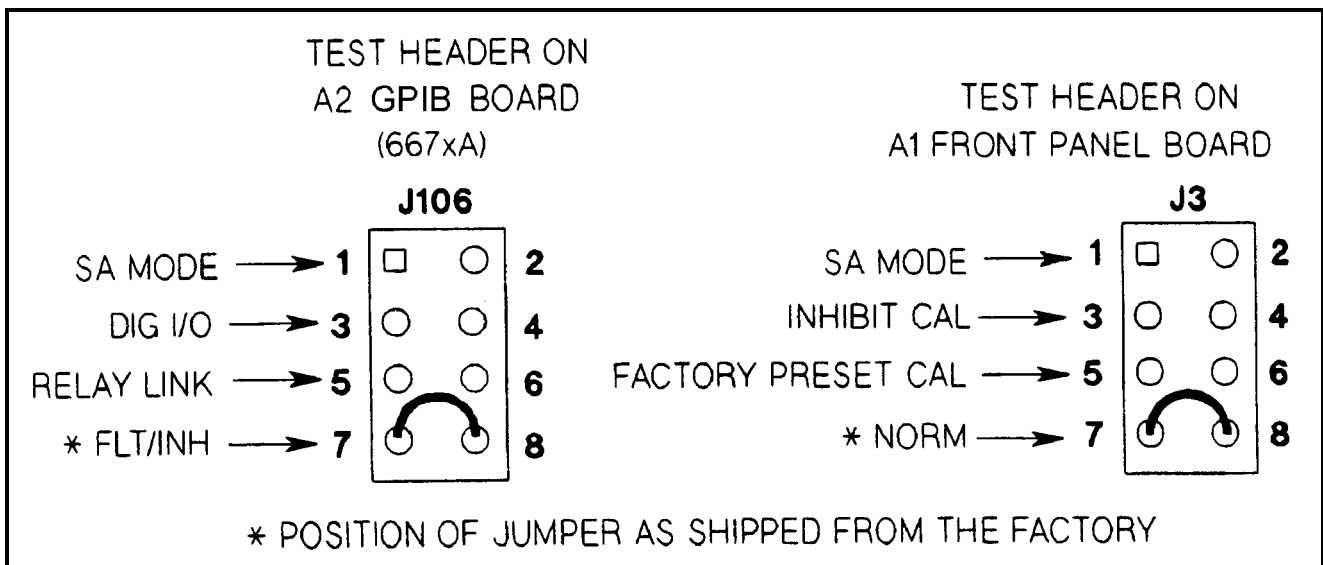

Figure 3-15. Test Header Jumper Positions
The power supply has two test headers as shown in Figure 3-15, each with a jumper that can be moved to different positions for SA testing and for other functions. To gain access to the headers, remove the power supply top cover.
2. Connect SA jumper of connector J106 on A2 GPIB Board (see Figure 3-15).
3. Connect SA jumper of connector J3 on A1 Front Panel Board (see Figure 3-15).
3. Connect signature analyzer CLOCK, START, STOP, and GROUND inputs and setup as shown in Figure 3-15.
If **CAL DENIED** appears on the display when front panel calibration is attempted (or error code 1 occurs when GPIB calibration is attempted on a Systems Supply), the INHIBIT CAL jumper (see Figure 3-15) is installed. This prevents the power supply calibration from being changed. To calibrate the power supply first move this jumper from the INHIBIT CAL position to the NORM position.
| 2 | Move the jumper in test header J3 on the A1 Front Panel Board from the NORM to the FACTORY PRESET CAL position (see Figure 3-15).  |
| 4 | When PWR ON INIT no longer appears, the supply's factory calibration constants have been restored and the password has been changed to 0. There is no longer any password protection. You can now turn off the supply and restore the calibration jumper to the NORM position (see Figure 3-15). |